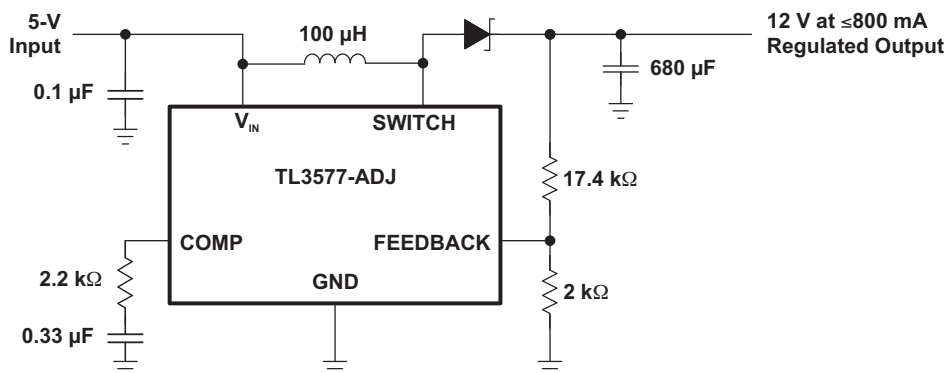
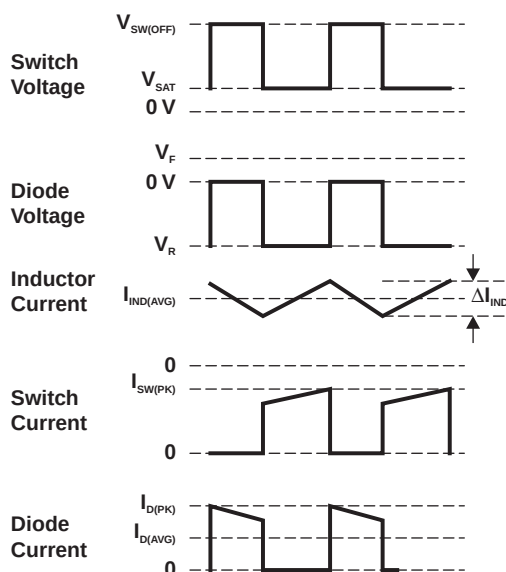

Figure 2. Typical Application – Boost Regulator
Figure 5. Step-Up Regulator Waveforms
Figure 2 shows a typical application of the TL3577 in a boost regulator.
Figure 2 shows a step-up switching regulator utilizing the TL3577. The regulator produces an output voltage higher than the input voltage. The TL3577 turns its switch on and off at a fixed frequency of 100 kHz, thus storing energy in the inductor (L). When the NPN switch is on, the inductor current is charged at a rate of V_{IN}/L . When the switch is off, the voltage at the SWITCH terminal of the inductor rises above V_{IN} , discharging the stored current through the output diode (D) into the output capacitor (C_{OUT}) at a rate of $(V_{OUT} - V_{IN})/L$. The energy stored in the inductor is thus transferred to the output. The output voltage is controlled by the amount of energy transferred, which is controlled by modulating the peak inductor current. This modulation is accomplished by feeding a portion of the output voltage to an error amplifier that amplifies the difference between the feedback voltage and an internal 1.23-V precision reference voltage. The output of the error amplifier is compared to a voltage that is proportional to the switch current or the inductor current during the switch-on time. A comparator terminates the switch-on time when the two voltages are equal and, thus, controls the peak switch current to maintain a constant output voltage. Figure 5 shows voltage and current waveforms for the circuit. Formulas for calculation are shown in Table 1.